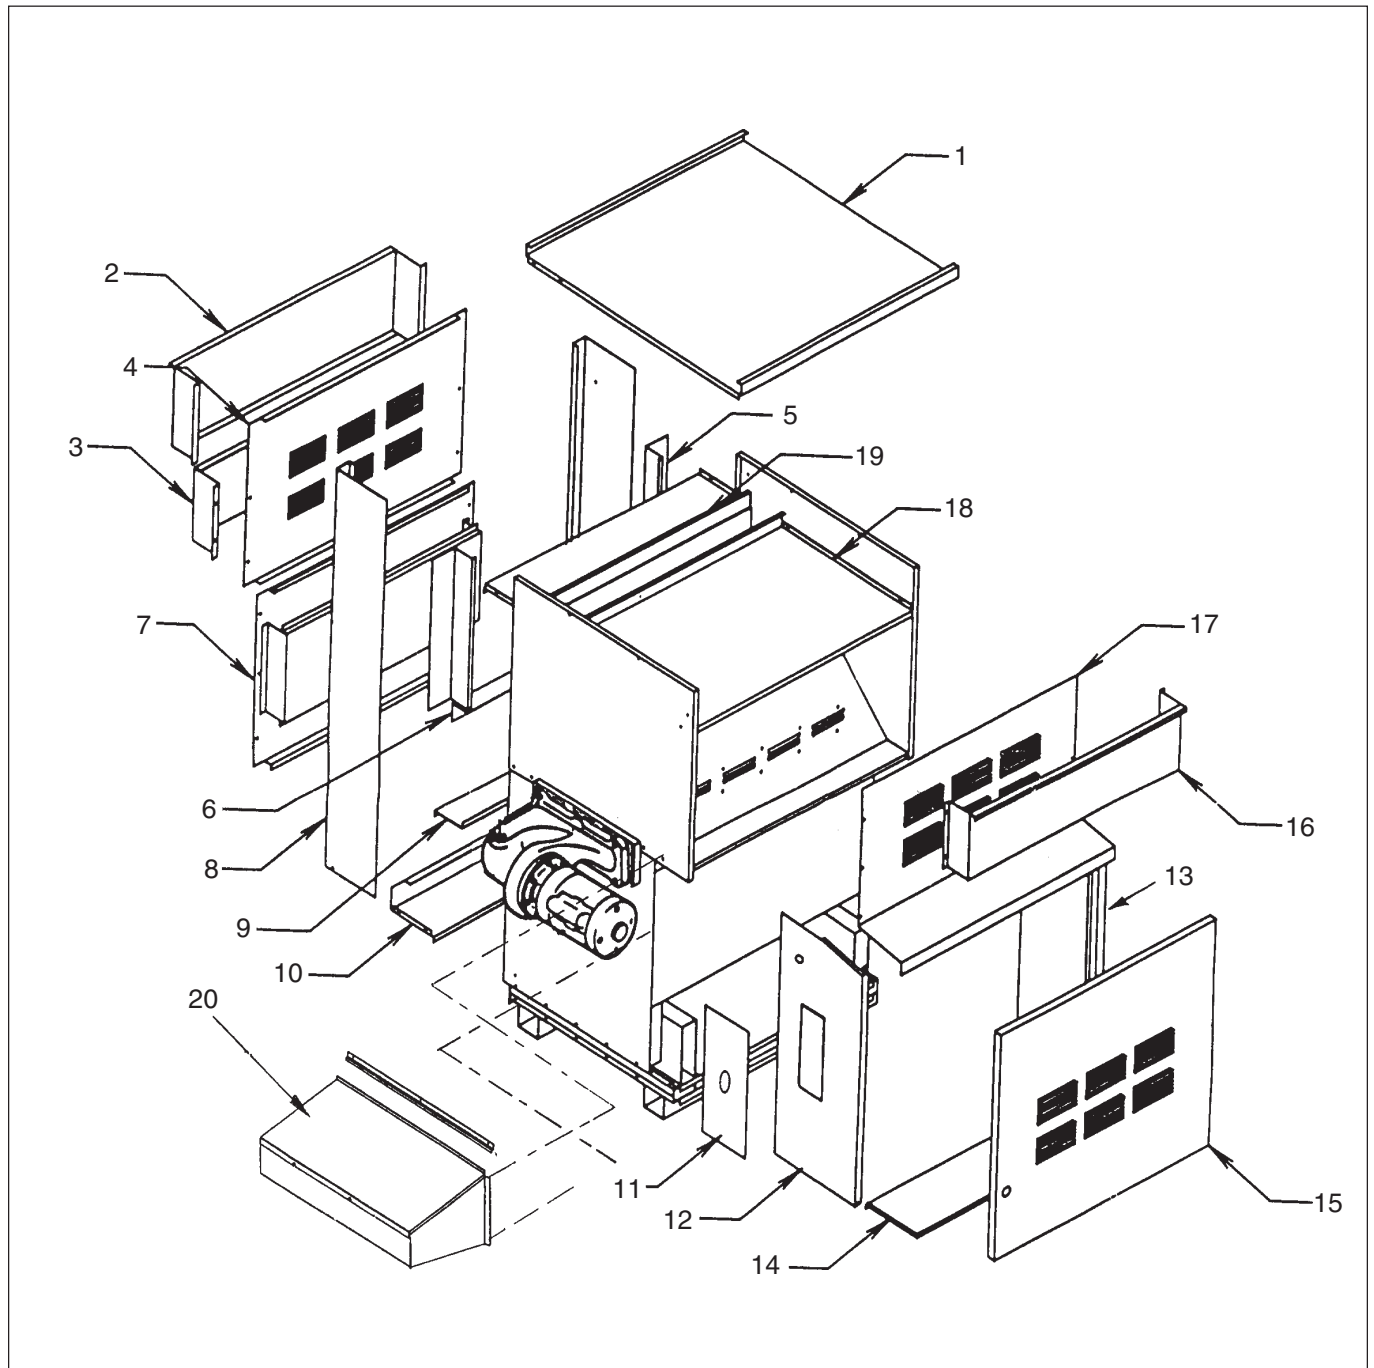

Figure 19. Outdoor Parts.
**Refer To Figure 19 For Placement**